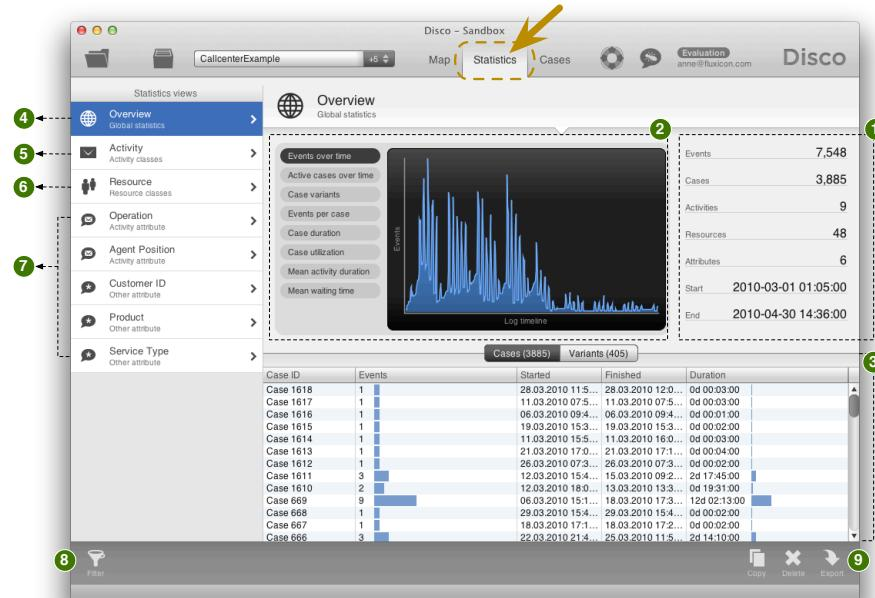

Fig. 4.25. The Statistics view in Disco.
While the Map view (Section 4.1) gives you an understanding about the actual process flow, the Statistics view provides you with additional overview information and detailed performance metrics about your process. You get to the Statistics view by simply changing to the *Statistics* tab as shown in Figure 4.25.
- ① *Overview information.* Key overview figures about the selected statistics view. For example, for the global statistics shown in Figure 4.25, you can see how many events and cases are in your data set, and which time frame is covered in the log.
- ② *Performance charts.* A number of pre-generated charts visualize relevant performance metrics for the current statistics view. Charts can be exported as explained in Section 7.3.
- ③ *Detailed information.* In the lower part of the screen, detailed statistics are shown in a table format. Every table in Disco can be exported as a CSV file to further process the information with other tools such as Excel or Minitab. Refer to Section 7.3 to learn how to do that.
- ⑧ *Filtering.* The log filter controls for the current data set can be accessed from each of the analysis views. Filters are really important to drill into specific aspects of your process and to focus your analysis. Read Chapter 5 for detailed information on how filtering works in Disco.
- ⑨ *Copy, Remove, and Export data set.* Data sets can be copied, deleted, and exported right from the current analysis view. Read Section 6.2 for further details on copying and deleting data sets. Process maps can be exported, for example, as a PDF file. The export functionality of Disco is explained in detail in the Export reference in Chapter 7.
In the lower part of the global statistics screen, you find a list of all cases in your data set (❸ in Figure 4.25).
In the upper part of the screen, a few summary figures and a chart are shown (❶ and ❷ in Figure 4.25). The summary figures are:
The second statistics view is the Activity statistics (❸ in Figure 4.25). It contains performance metrics about the activities in your process.